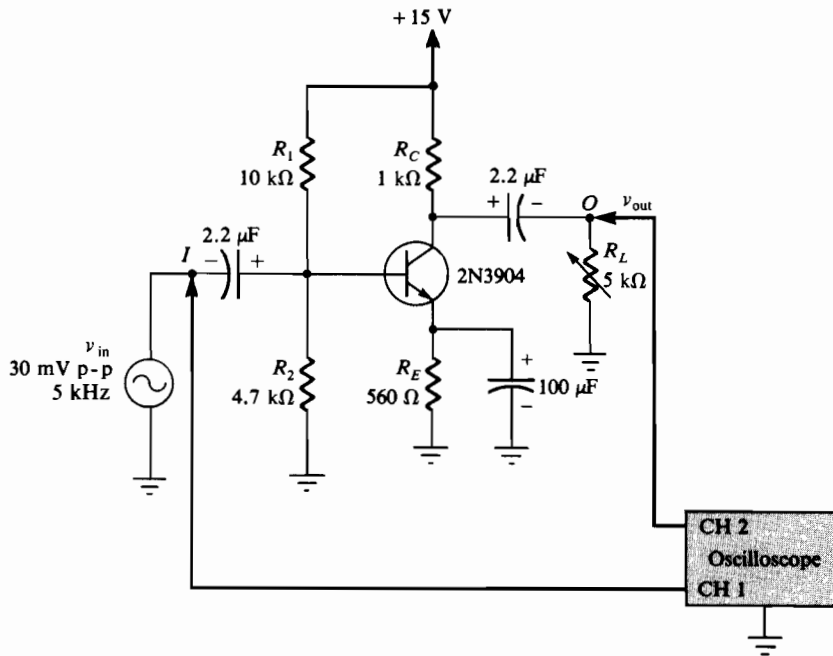

FIGURE 25-1 Schematic diagram of circuit.
1. Wire the circuit shown in Figure 25-1, omitting the signal generator and the power supply.
2. After you have checked all connections, apply only the 15-V supply voltage to the breadboard. With the VOM or DMM, individually measure the transistor dc base and emitter voltages with respect to ground, as well as V_{CEQ} , recording your results in Table 25-1. Based on the resistor values of Figure 25-1, determine the expected values of these three voltages, assuming a base-emitter voltage drop of 0.7 V, and compare them with the measured values in Table 25-1.
1. For the circuit of Figure 25-1, the value of R_L that centers the Q point is approximately
5. For the Class A amplifier of Figure 25-1, the maximum peak-to-peak output voltage that can be obtained without clipping with a $500\text{-}\Omega$ load is approximately